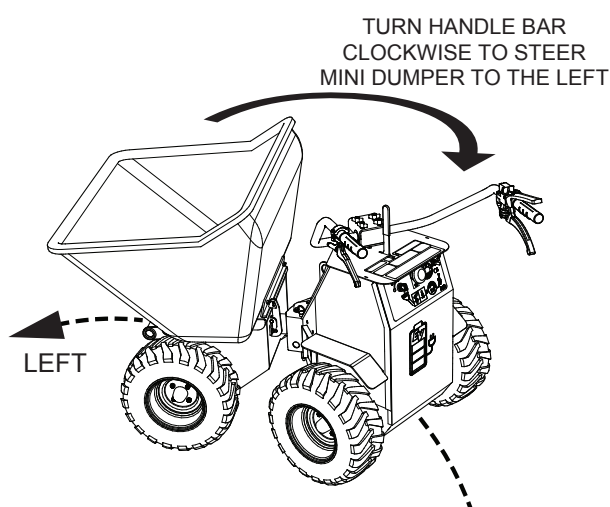

Figure 10. Steering the Mini Dumper (CW-Left)
1. To turn left (Figure 10) when traveling in the forward direction, turn the handle bar clockwise.